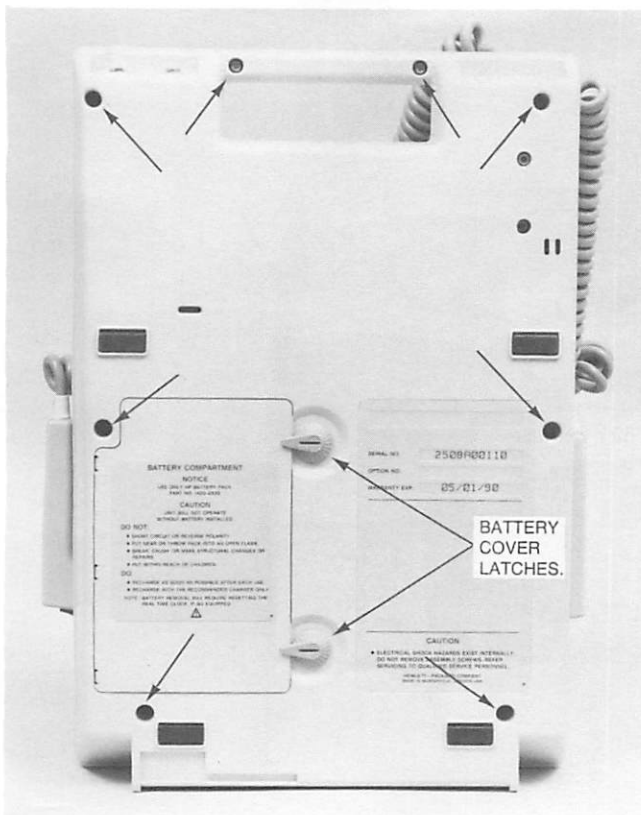

Figure 4-1.
1. Refer to Figure 4-1.
3. Remove screws indicated by the arrows in Figure 4-1.